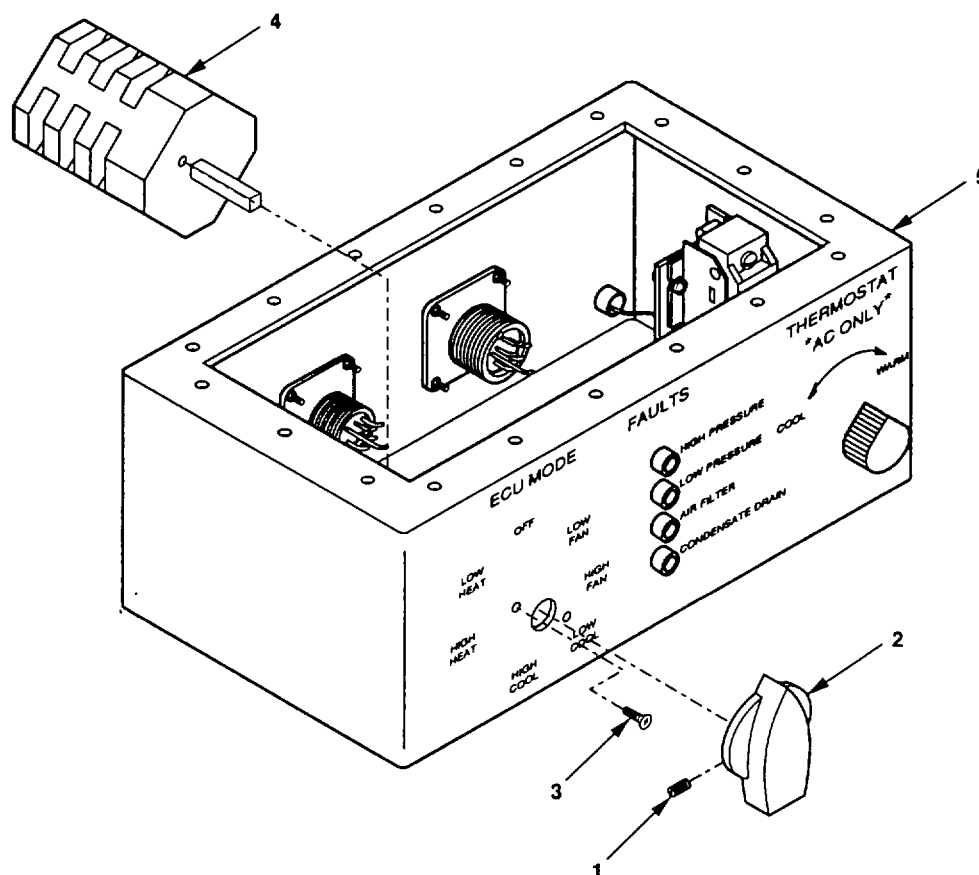

Figure 4-15. Mode Selector Switch.
- (1) Remove retaining screw (Figure 4-15, 1) and selector knob (2).
- (2) Remove two switch mounting screws (3) and mode selector switch (4).
- (3) Tag and disconnect all electrical leads.
**b. Test.** Test contacts on mode selector switch (4) for closure in accordance with table 4-5.